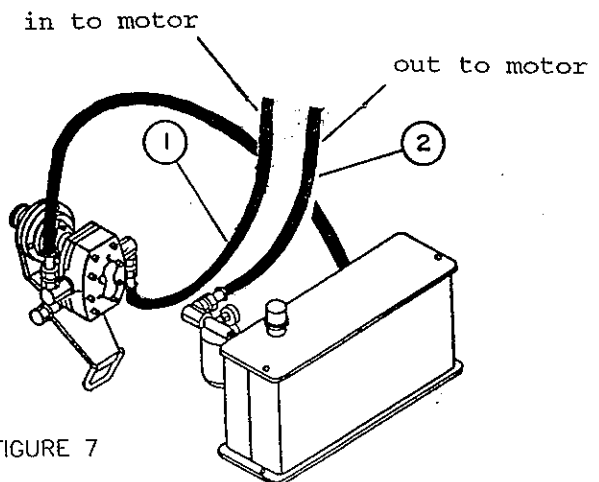

FIGURE 7
- a) Install $1/2"$ hose (not included)(fig.7, item 1) from hydraulic pump to input port of motor.
- b) Connect reservoir $1/2"$ hose (not included)(fig.7, item 2) to output port of motor.